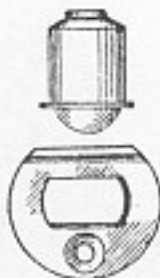

Fig. 310. Ball catch.
3. Ball catches consist of a brass cylinder which contains a spring pressing against a steel ball (Fig. 310). They are made in diameters of $\frac{1}{4}$, $\frac{5}{16}$, and $\frac{3}{8}$ in. To attach a ball catch, a hole of the proper size is bored in the end or edge of a small cabinet door. The strike is screwed to the frame opposite the ball, and the beveled side of the strike is placed toward the front.